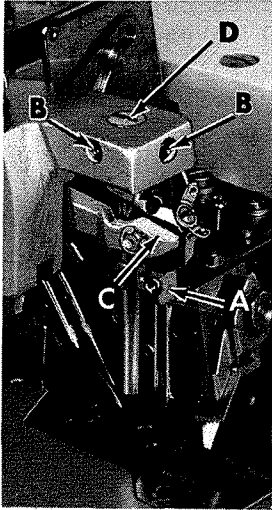
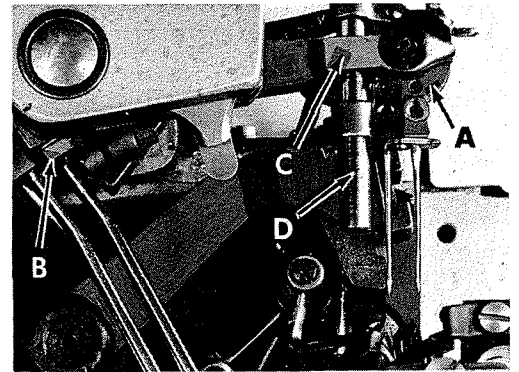
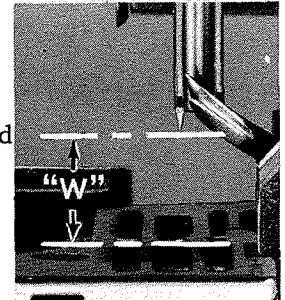

Fig. 5
Fig. 6
Fig. 7
With throat plate assembled in position, the needles should center in the throat plate needle slots (left to right). The needle head (A, Figs. 5 and 6) can be repositioned by loosening set screws (B, Fig. 5) and binder screw (B, Fig. 6) in needle drive lever (C, Figs. 5 and 6); then; simultaneously turning needle head guide bar (D) which is an eccentric and sliding the needle drive lever (C) to the left or right on needle rock shaft as required to alleviate bind. When proper left to right needle position is obtained, tighten set screws (B, Fig. 5) securely and tighten screw (B, Fig. 6) lightly.
Needle Drive lever (C, Fig. 5 and 6) must also be positioned to set height of needles above throat plate which should be  $\frac{7}{16}$  inch (11.11 mm) on Styles 39800 CA and CB;  $\frac{17}{32}$  inch (13.49 mm) on Styles 39800 CP, CQ, CX, CY, VCP, VCQ, VCX, VCY with needles at top of stroke (W, Fig. 7). Tap the needle drive lever (C, Figs. 5 and 6) lightly up or down to obtain desired needle height. Needle gauge No. 21227 DD can be used by placing it on top of the throat plate and bringing the needle head bottom to rest on top of the gauge. This will have the needles at the bottom of their stroke. Note that the gauge has separate heights, one for high, the other for low capacity machines. Tighten screw (B, Fig. 6) securely.